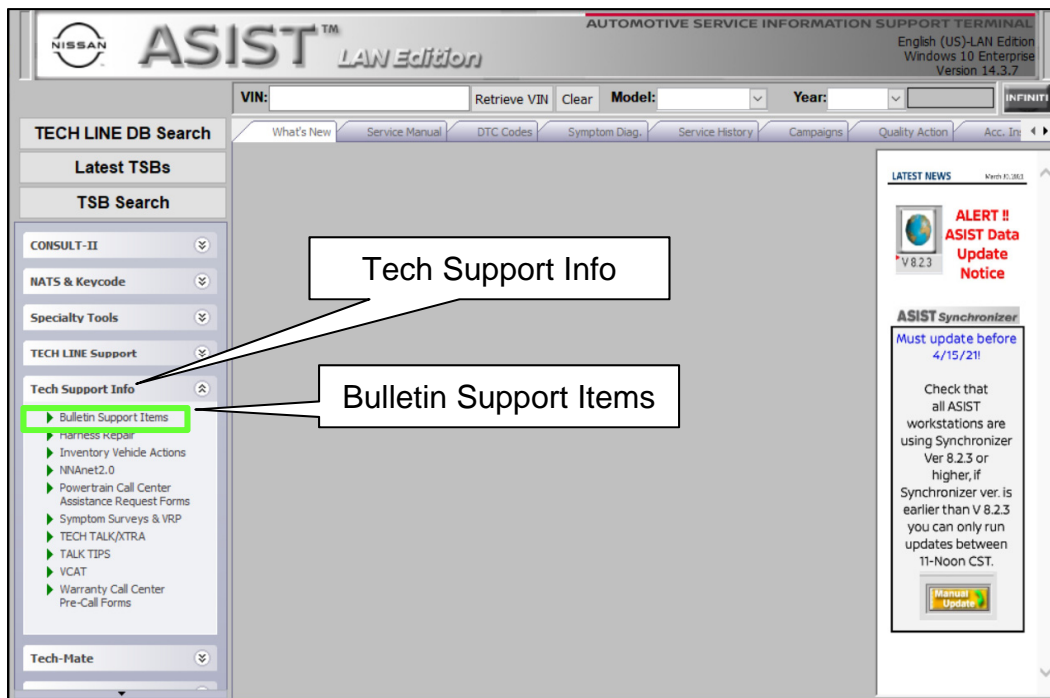
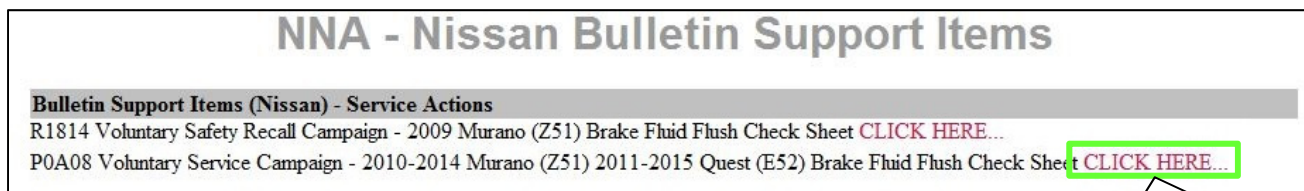

Figure 3
Figure 4
- The form can be accessed by selecting **ASIST > Tech Support Info > Bulletin Support Items > P0A08 Voluntary Service Campaign – 2010-2014 Murano (Z51) 2011-2015 Quest (E52) Brake Fluid Flush Check Sheet** (see Figure 3 and Figure 4).
- The form can be accessed by selecting **ASIST > Tech Support Info > Bulletin Support Items > P0A08 Voluntary Service Campaign – 2010-2014 Murano (Z51) 2011-2015 Quest (E52) Brake Fluid Flush Check Sheet** (see page 6, Figure 3 and Figure 4).